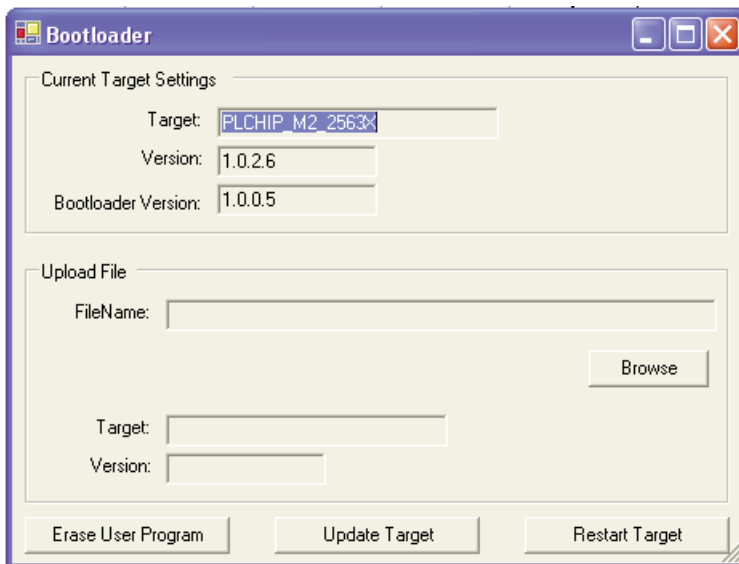

Figure 4.6
8. To update the version, click UPDATE TARGET. A “downloading firmware” status box will appear. The new kernel version is being installed. This may take several minutes. See Figure 4.6.